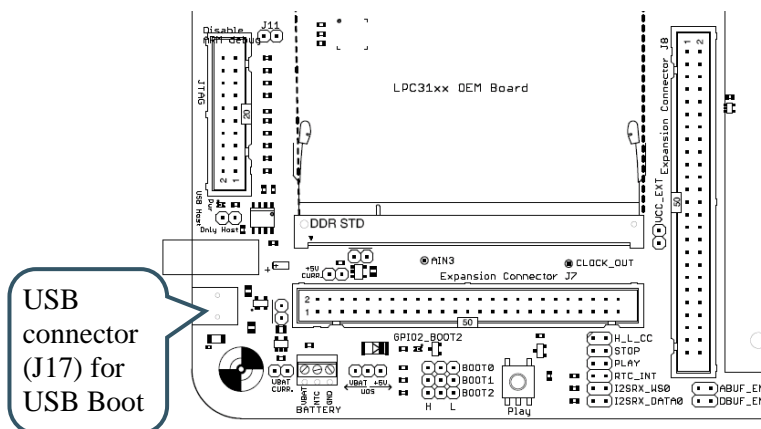

Figure 19 – LPC31xx Base Board USB Connector to LPC31xx OEM Board
1. Connect a USB cable (mini-B to A) from your computer to the *LPC31xx Base Board*. Note that it is the LPC3152 USB connection that should be connected to, not the UART-to-serial bridge on the *LPC31xx Base Board*. See Figure 19 for an illustration where the correct USB connector can be found.